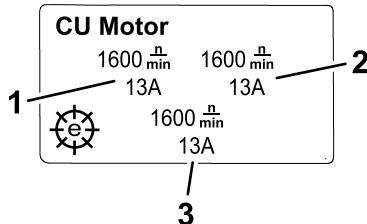

Figure 21
- CU motor information screen  (Figure 21):** shows the speed and current of each reel motor.